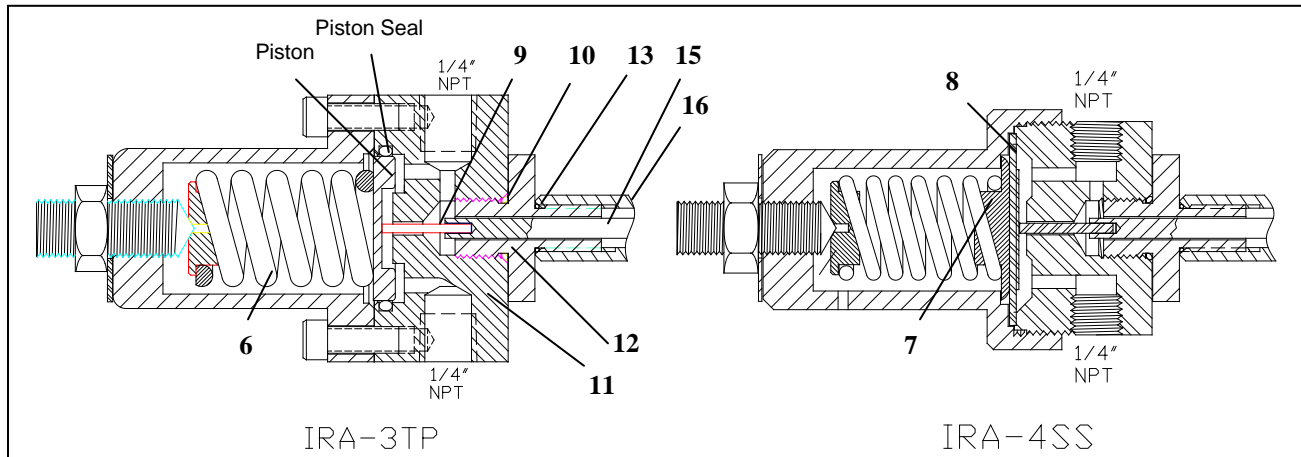

FIGURE 3
4.2.12 To replace the piston seal (IRA-3TP), remove the eight Allen head cap screws from the spring housing and lift the housing off the body (see Figure 3).